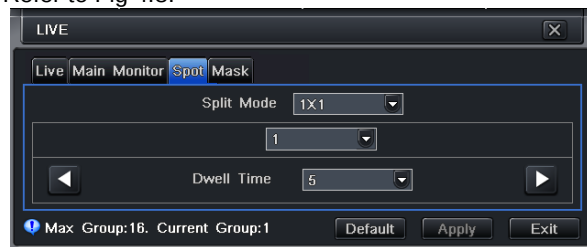

Fig 4.8 Live Configuration - Spot
Step 1: Enter into system configuration → live configuration → spot. Refer to Fig 4.8.